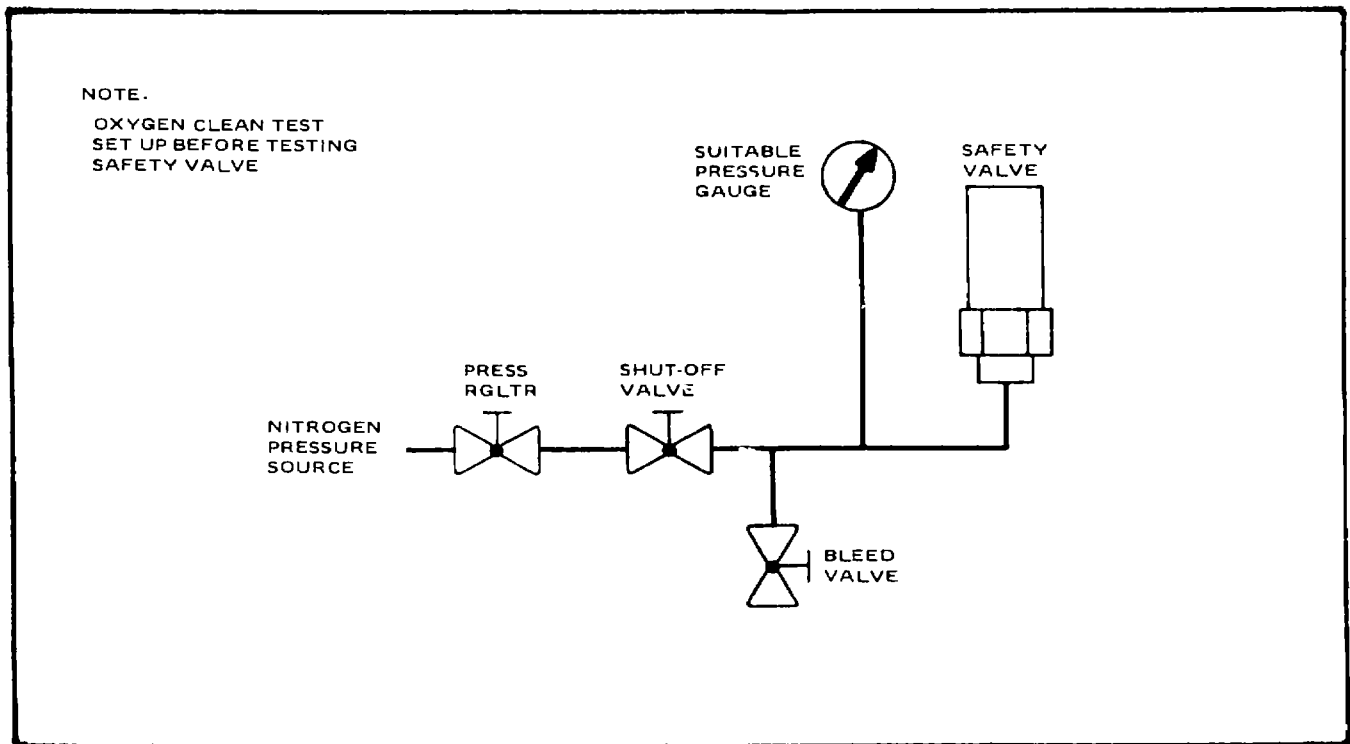

Figure 6-4. Typical Safety Valve Test Setup (Oxygen)
- (3) Test Safety Valves Connect oxygen safety valve to be tested to an oxygen cleaned gauge and regulated 3800 psig (26,182 kPa) clean nitrogen source (See Figure 6-4)